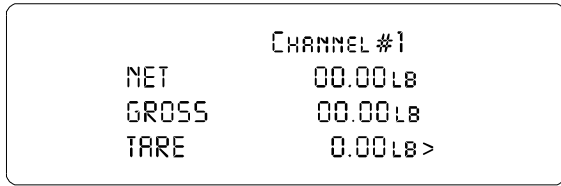

FIG. 3-7 SINGLE CHANNEL SELECTION DISPLAY
- Step 4. Press either the Display or the Enter button. The Single Channel display appears for the selected channel. (See Fig. 3-7)
- Step 5. You will notice an arrow at the end of the TARE line. (See Fig. 3-7)